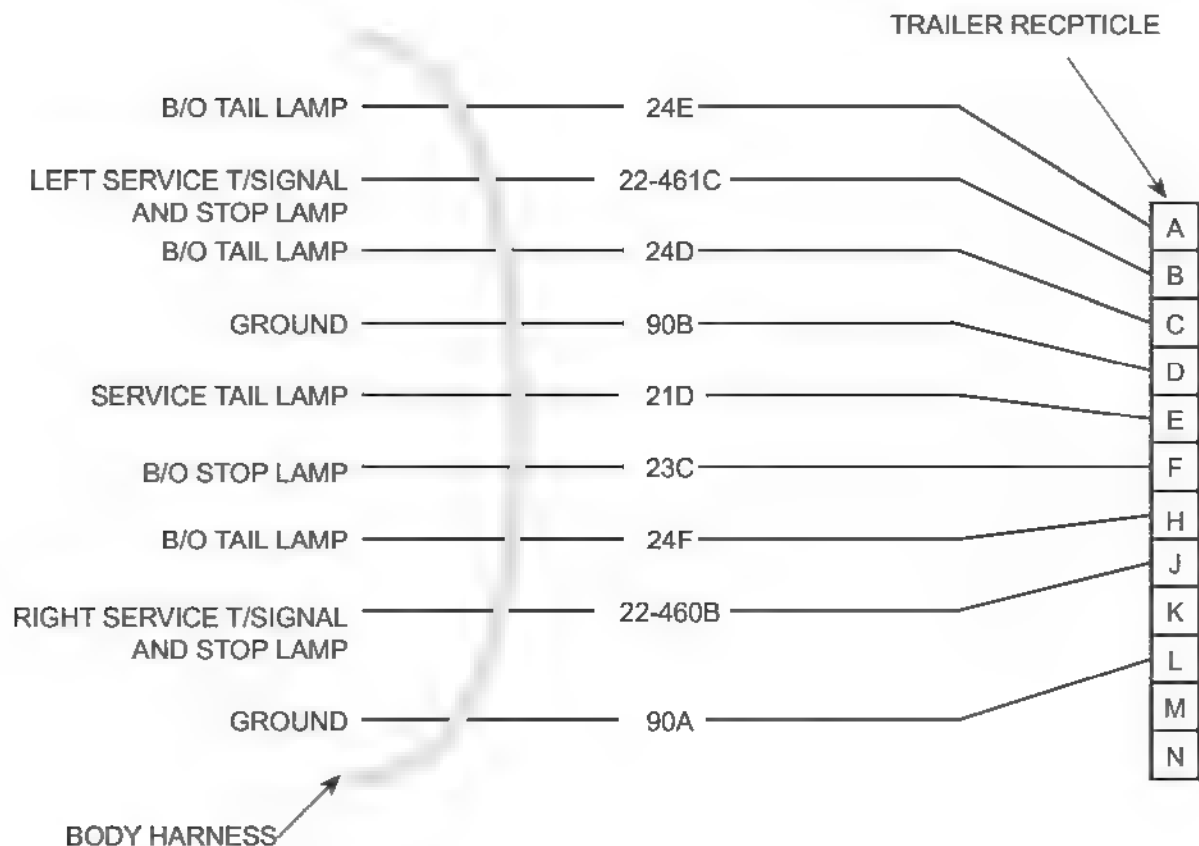

Figure 12-15. Trailer Lighting System Schematic.
L. ONE OR MORE TRAILER LIGHTS INOPERATIVE (VEHICLE LIGHTING SYSTEM FUNCTIONS NORMALLY) (Figure 12-15)